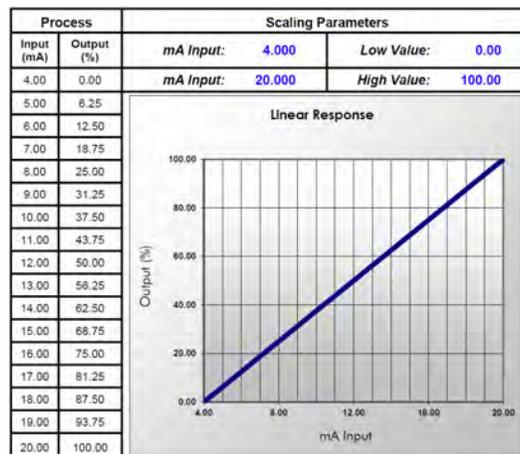

Fig 25: Linear Response Graph
- The graph in figure 25 shows the display response based on example scaling parameters.